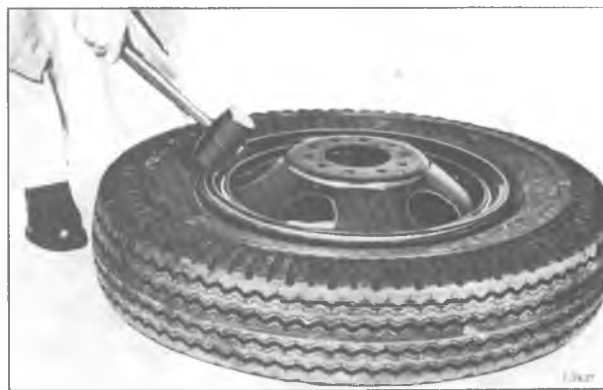

Figure 17—Releasing Tire Rim Clamp
2. Using a hammer, tap around the side ring progressively to move it in toward the center of the rim until it clears the clamp ring (fig. 17).